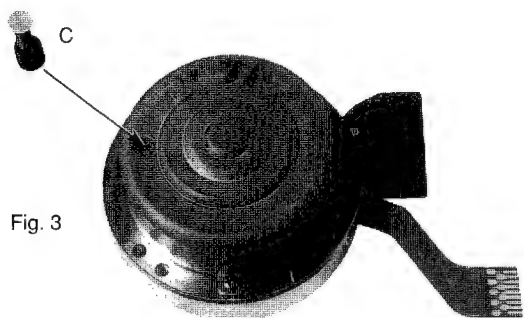

Fig. 3
- Insert the reference pin C (included with each service head disc) through the bigger hole of the lid of the scanner motor until the pin snaps in the long hole of the rotor. (Fig. 3)